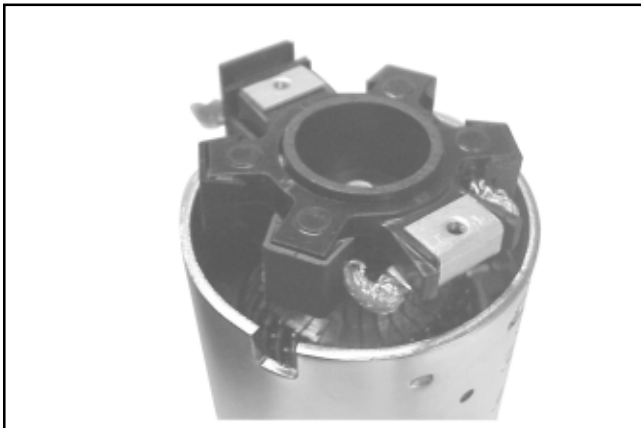

Figure 8-63. Installing Brush Holder Assembly with Supplied Tube.
- Hold the starter assembly vertically on the end housing, and carefully position the assembled brush holder assembly, with the supplied protective tube, against the end of the commutator/armature. The mounting screw holes in the metal clips must be "up/out." Slide the brush holder assembly down into place around the commutator, and install the positive (+) brush lead grommet in the cutout of the frame. See Figure 8-63. The protective tube may be saved and used for future servicing.